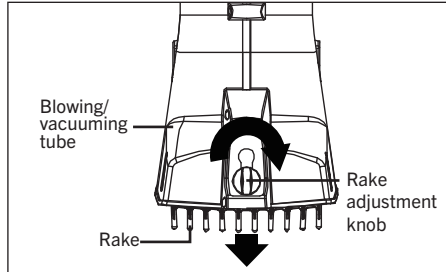

FIG. 9
1. Rotate the rake adjustment knob to unlock the rake, the knob will slide down and the rake will extend (Fig. 9).